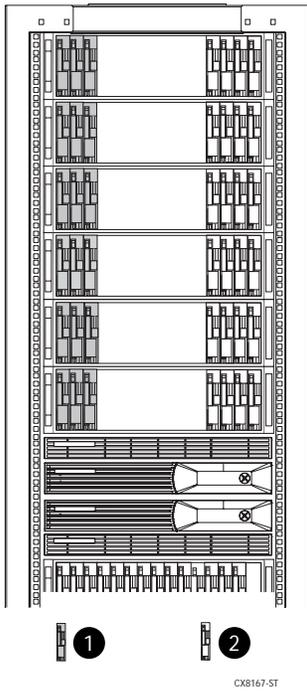

Figure 6 Sequential building of vertical disk groups
- Disk drives should be installed in vertical columns within the disk enclosures. Add drives vertically in multiples of eight, completely filling columns if possible. Disk groups are more robust if filled with the same number of disk drives in each enclosure. See Figure 6 for an example.
Add the disk drives required for the first disk group, and then create a disk group using these disk drives. Now add the disk drives for the second disk group, and then create that disk group. This process gives you control over which disk drives are included in each disk group. Figure 6 shows the sequential building of vertical disk groups.